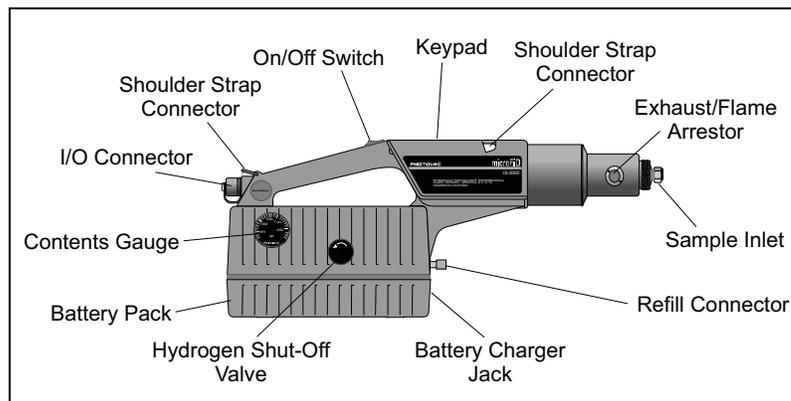

Figure 1 MicroFID Layout
1. Stop the flow of hydrogen gas by turning the hydrogen shut-off valve fully clockwise. See *Figure 1*. If the instrument has been turned on, turn it off by pressing the On/Off switch twice.
3. If you selected “Start Flame”, MicroFID will prompt you to start the flow of hydrogen. Turn the shut-off valve counterclockwise to start the flow of hydrogen and press ENTER. See *Figure 1* for the location of the shut-off valve.